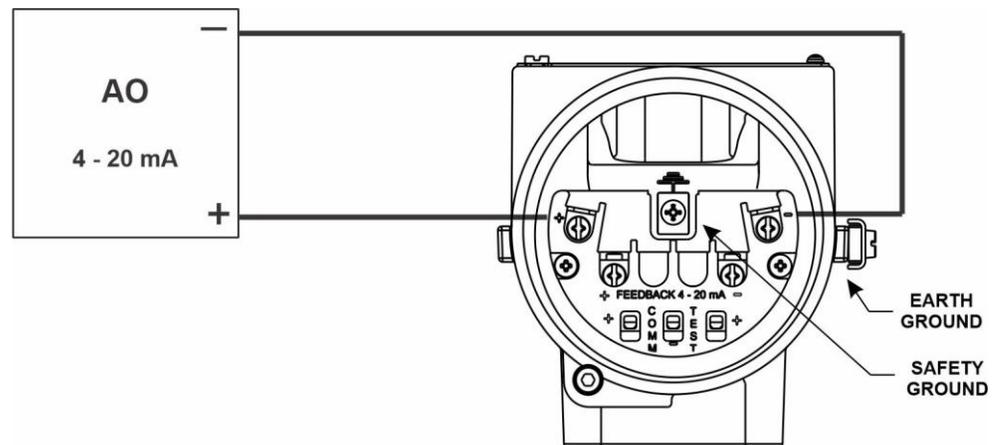

Figure 1.22 – Loop connections
2. Connect the positive wire to the (+) screw terminal and the negative wire to the (-) screw terminal, As shown in figure 1.22.